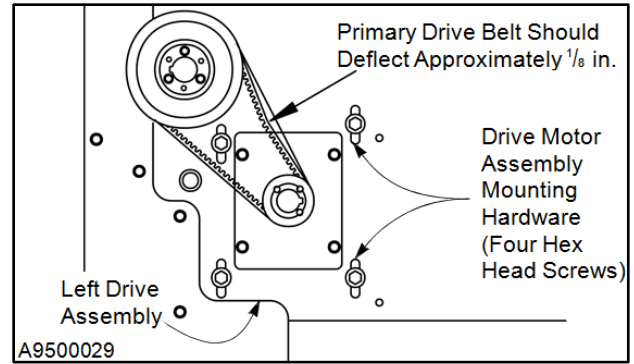

Figure 28
2. Check the tension setting of the primary drive belt by placing moderate pressure against the midpoint of the belt. A properly tensioned belt should deflect approximately $\frac{1}{8}$ in. (See Figure 28.)
3. Inspect the hardware securing the drive motor assembly to the left drive assembly. Tighten any loose hardware. Replace any missing or damaged hardware as required. (See Figure 28.)